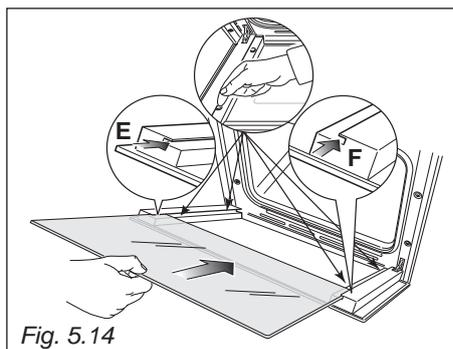
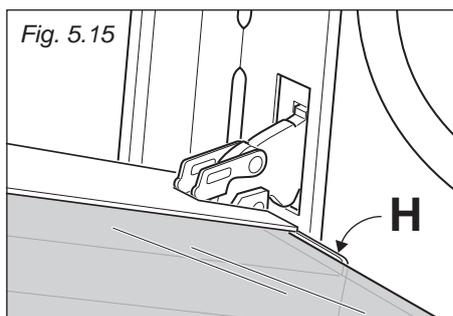

Fig. 5.14
Fig. 5.15
- IMPORTANT:** It is advisable, while refitting the glass, to keep pressed in position the four rubber pads "D", by a finger, to avoid breakage or slippage of the rubber pads themselves (fig. 5.14).
- Insert the pane in the left "E" and right "F" slide guides (fig. 5.14), and gently slide it to the retainers "H" (fig. 5.15).